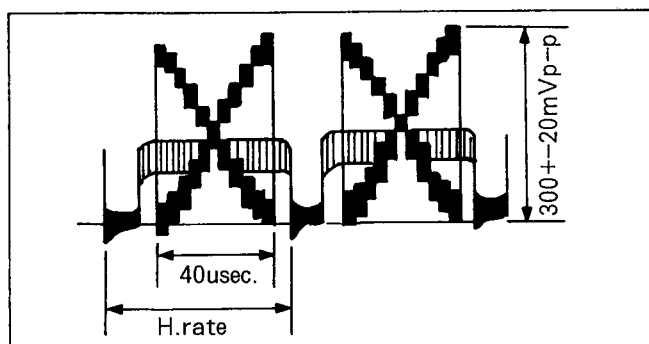

Fig. C14
- (1) Aim the camera at the gray scale chart.
- (2) Connect the scope to TP515 and trigger with Pin 7 of FP306 (H-Rate).
- (3) Adjust the Camera Unit to obtain 40usec picture frame as shown in Fig. C14.
- (4) Adjust the Auto Iris Control (VR327) so that the signal level is 0.3V $\pm$ 0.02Vp-p.